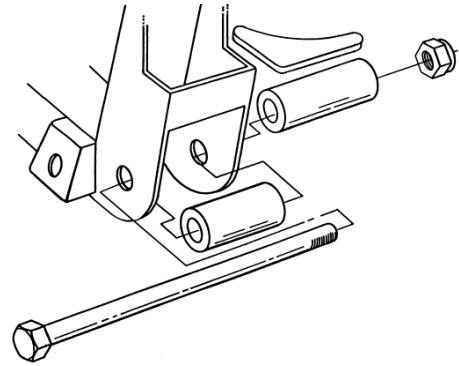

Figure 2- Crossmember Spacers Install
5. If you purchased a complete I.F.S. Package from **HEIDTS**, it was supplied with Full Lower A-Arms. Begin by installing the Spacers onto the crossmember. The holes where the lower control arms attach to the Crossmember must be enlarged to 5/8". Mount the Crossmember Spacers and the Rear Spacers which were supplied with the Lower Control Arms onto the Crossmember as shown in **Figure 2** using the supplied Inner Bushing Bolts, Nuts and a temporary spacer under the Nuts. **DO NOT** use the A-Arms for this operation as the welding heat will melt the rubber bushings. Tighten the Bolts and Nuts tight. Weld the Rear Spacers to the Crossmember all around. Weld the Crossmember Spacers as far as possible inside the crossmember on both ends. Position the Gussets horizontally, not vertically, against the Rear Spacers and the back of the Crossmember. Weld Gussets to Spacers and Crossmember. When it cools, remove the bolt.